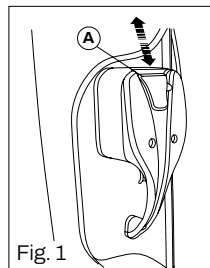

Fig. 1
(Fig. 1 and 2)
- Your motorhome is fitted with fixed air vents which should not be obstructed. These vents are located in some skylights on the roof and on the inside of the entrance step (Fig. 1 and 2)